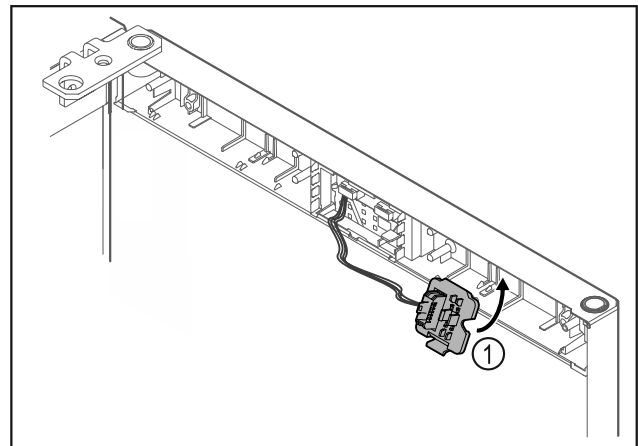

Fig. 16
- Engage the plug holder Fig. 16 (1) on the opposite side.*